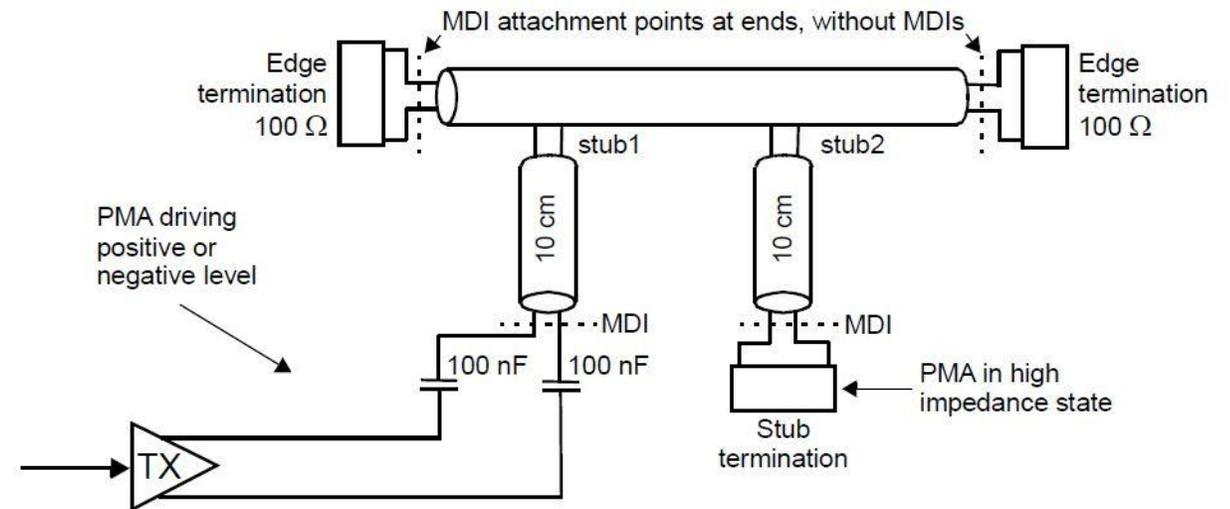

Figure 147-20—Multidrop line termination and PMA
- Clause 147, Figure 147-20 (shown)